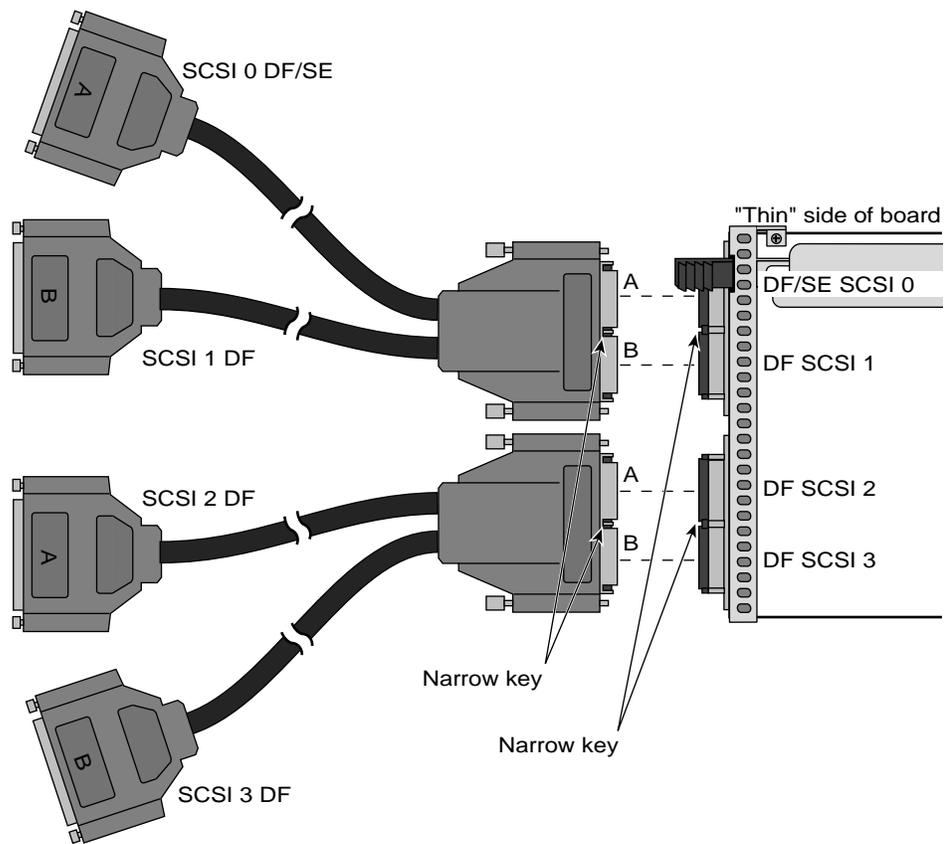

Figure 4-2 Optional Ultra SCSI Cable Connections
The optional Ultra SCSI XIO board supplies four differential (DF) SCSI connections (see Figure 4-2). You may connect the DLT7000 to any of these connections. The optional differential PCI SCSI board (P/N 9980984) may also be used to control the DLT7000.
2. Plug one end of the SCSI cable into port 0 (or the next available port) on the optional Silicon Graphics Ultra SCSI XIO board. Figure 4-2 shows the port 0 cable on the Ultra SCSI board. Alternately, you can connect the DLT7000 drive to a differential Silicon Graphics PCI SCSI option board (P/N 9980984).
2. Plug one end of the SCSI cable into the host's external single-ended SCSI connector on the BaseIO board. Alternately, you can connect the DLT2000XT drive to a single-ended Silicon Graphics PCI SCSI option board (P/N 9980983) or port 0 on the Silicon Graphics Ultra SCSI XIO board. Figure 4-2 shows the port 0 cable on the Ultra SCSI board.